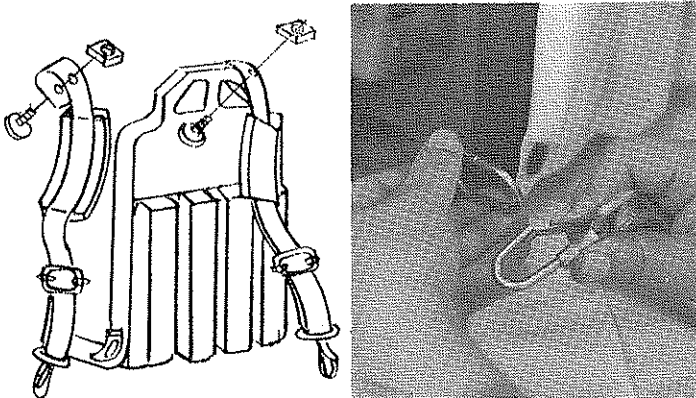

Figure 3
2. Attach shoulder straps to the machine. (Fig. 3)